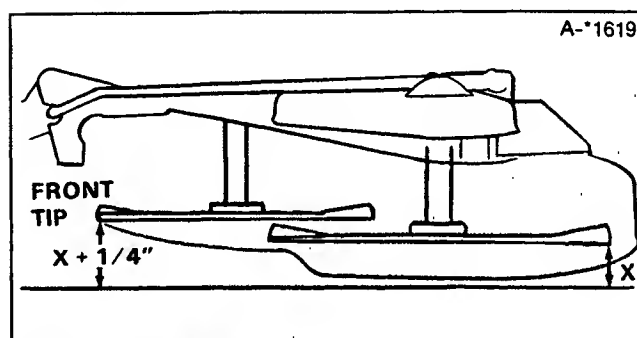

Figure 37. Levelling Mower
3. Measure the distance from the front tip of the center blade to the ground, and note that measurement (see figure 37).
4. Measure the distance to the ground from the rear tips of the left and right blades. Compare these measurements with the measurement from the front tip of the center blade. The front tip of the center blade should be 1/4 inch (6 mm) higher than the rear tips of the side blades (figure 37).